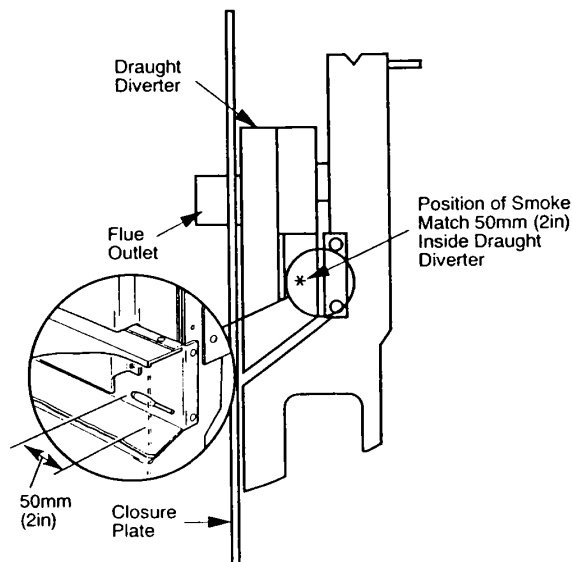

Fig. 8 Test for Spillage
- (d) The fire should be checked visually for the absence of spillage by holding a smoke match 50mm (2in) inside the draught diverter behind the fire ensuring that the smoke is drawn into the flue outlet (Fig.8). If there is any doubt repeat the test after a further 10 minutes. If spillage still persists the chimney may be faulty. The cause of the fault MUST be identified and corrected before leaving the fire installed. IF THE FAULT CANNOT BE CORRECTED, TURN OFF AND DISCONNECT THE GAS SUPPLY TO THE FIRE - SEEK EXPERT ADVICE.